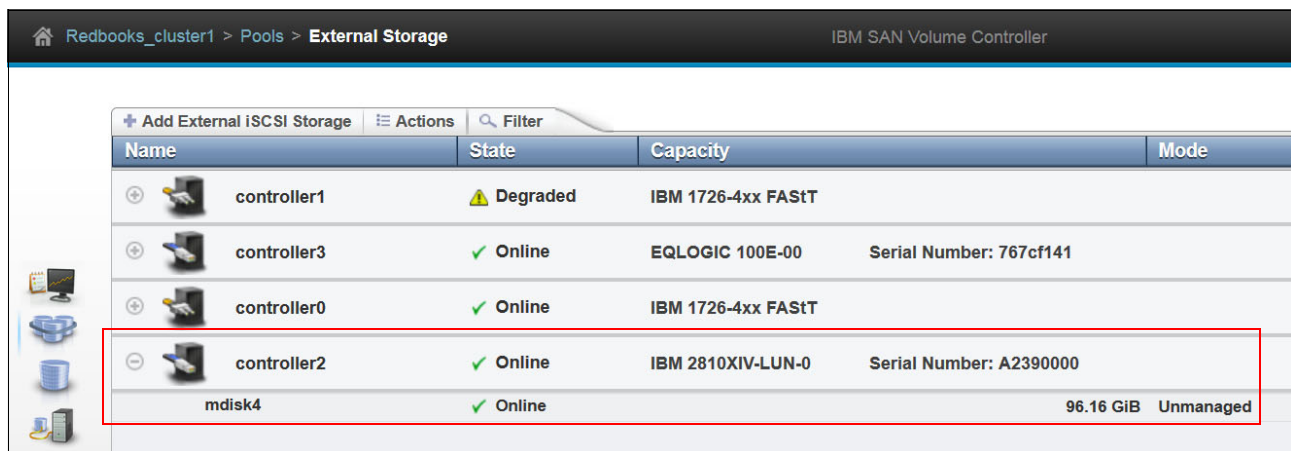

Figure 13-16 New external iSCSI controller with LUN
- The External Storage window shows the new controller with its LUNs as MDisks (Figure 13-16).